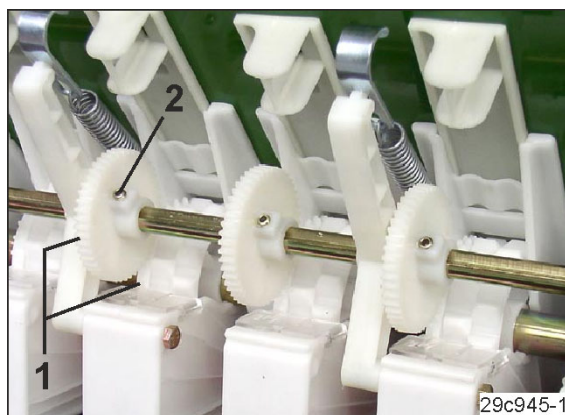

Fig. 244
6. Mesh the teeth (Fig. 244/1) of the drive pinion and the tramline fine seed metering wheels.
7. Tighten the hexagon socket screws (Fig. 244/1) of the drive pinion in the notch of the lay shaft without tension.